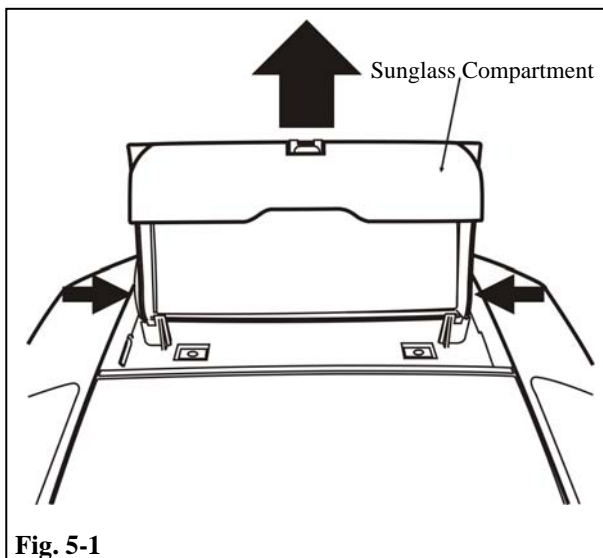

Fig. 5-1
- (a) With an NRT, disengage pivot points in sunglass compartment and remove from overhead console (Fig. 5-1).
- (1) Discard spring and front compartment.